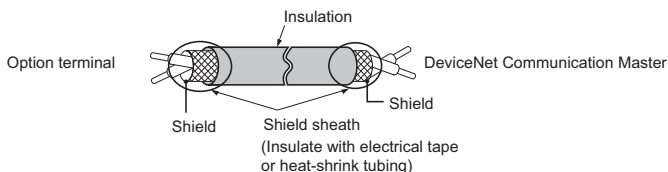

Figure 24 Prepare Ends of Shielded Cable
1. Prepare the communication cables as shown in *Figure 24*.